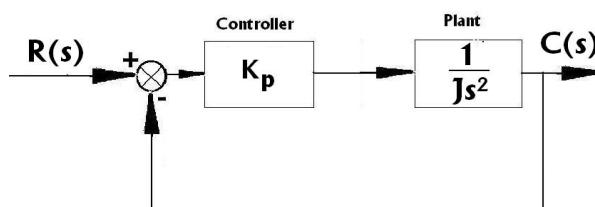

Fig.16.8
- Consider the unity feedback system of Fig. 16.8. Let  $K_p=20$  and  $J=50$ . Determine the equation of response for a unit step input and determine the steady-state error.